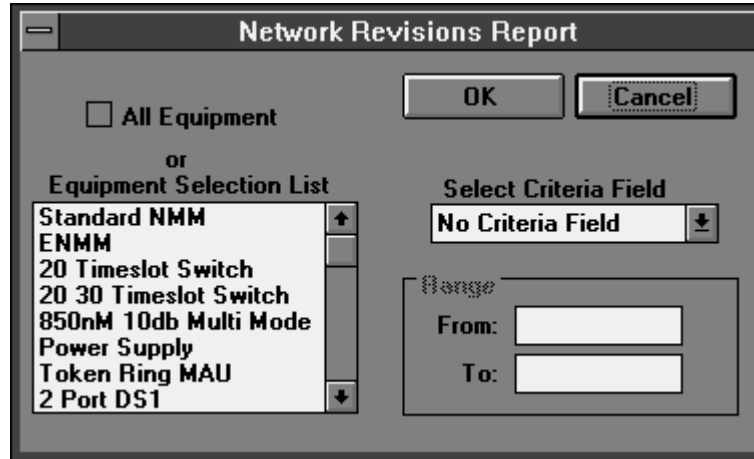

Figure 4-1. Network Revisions Report Selection
4. Select All Equipment or choose from the Equipment Selection List (refer to Figure 4-1).